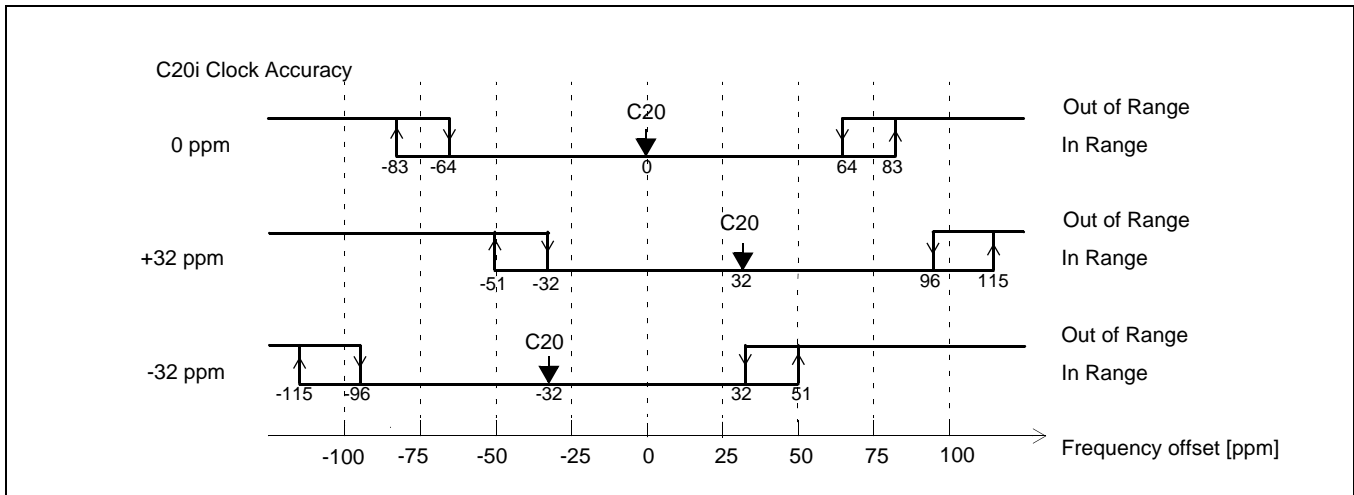
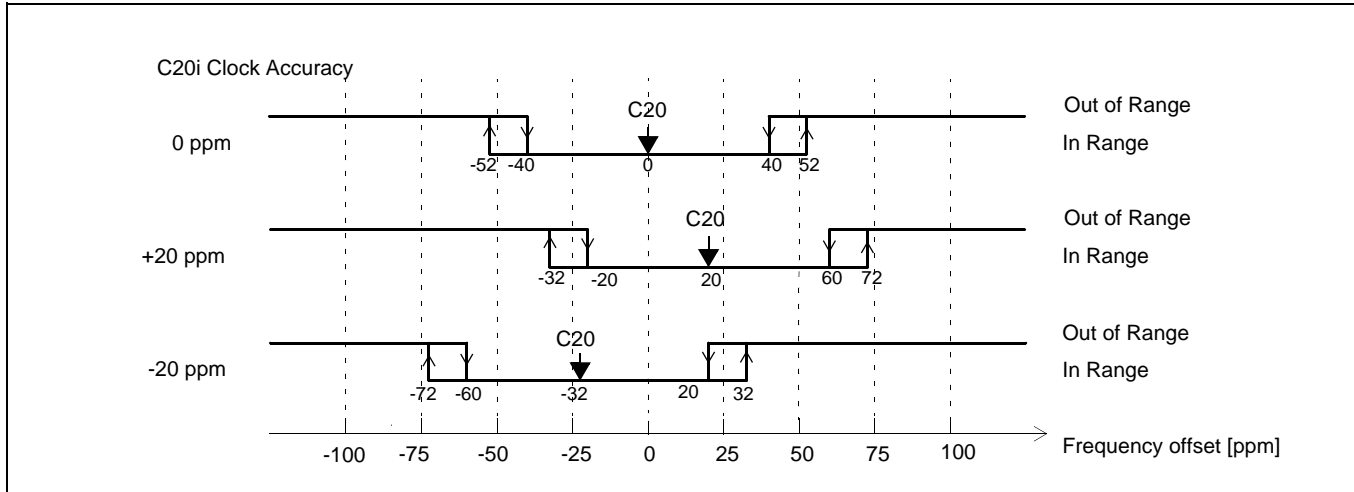

Figure 5 - Out-of-Range Thresholds for OOR\_SEL=1
Figure 6 - Out-of-Range Thresholds for OOR\_SEL=0
| Figure 5 - Out-of-Range Thresholds for OOR_SEL=1. . . . .          | 9  |
| Figure 6 - Out-of-Range Thresholds for OOR_SEL=0. . . . .          | 10 |
- **Precise Frequency Monitor (PFM):** This circuit determines whether the frequency of the reference clock is within the applicable accuracy range defined by the OOR\_SEL pin, see Figure 5, Figure 6 and Table 2. It will take the precise frequency monitor up to 10 s to qualify or disqualify the input reference.